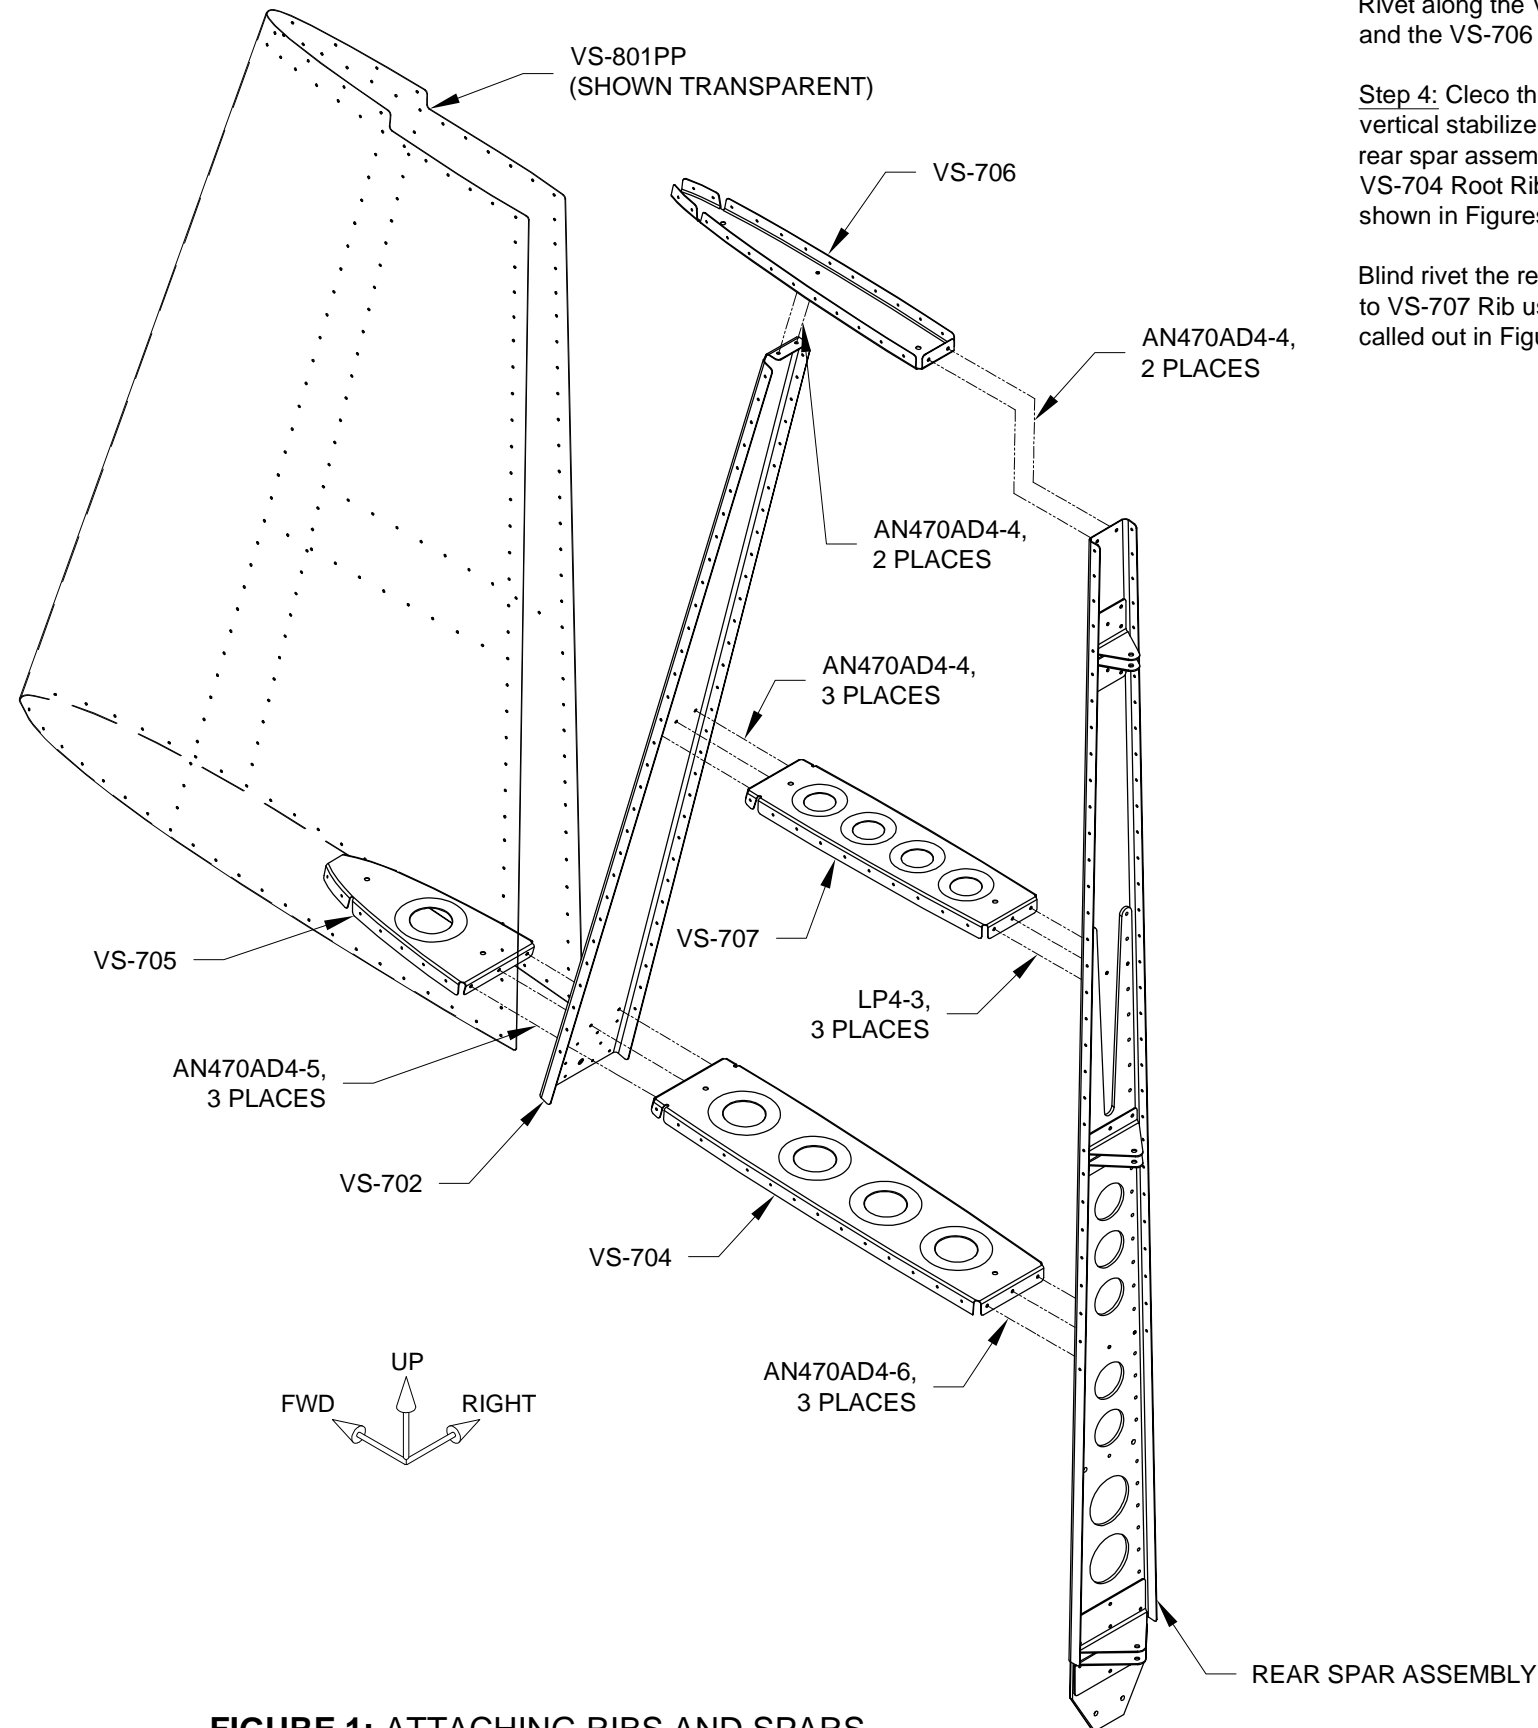

FIGURE 1: ATTACHING RIBS AND SPARS
Step 4: Cleco the Rear Spar Assembly to the vertical stabilizer assembly. Rivet the rear spar assembly to the VS-801PP Skin, VS-704 Root Rib, and VS-706 Tip Rib as shown in Figures 1 and 2.
Blind rivet the rear spar assembly to VS-707 Rib using the hardware called out in Figure 1.